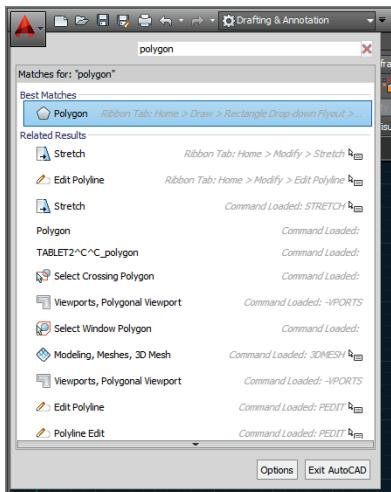

FIGURE 1.5 Searching for commands in the Application menu
1. Click the Application menu to open it. Type **polygon**, and observe that the text appears in the search box at the top of the Application menu. The search results (see Figure 1.5) list many related AutoCAD commands. Search is useful when you're not sure how to access a command in the interface or what its exact name is.